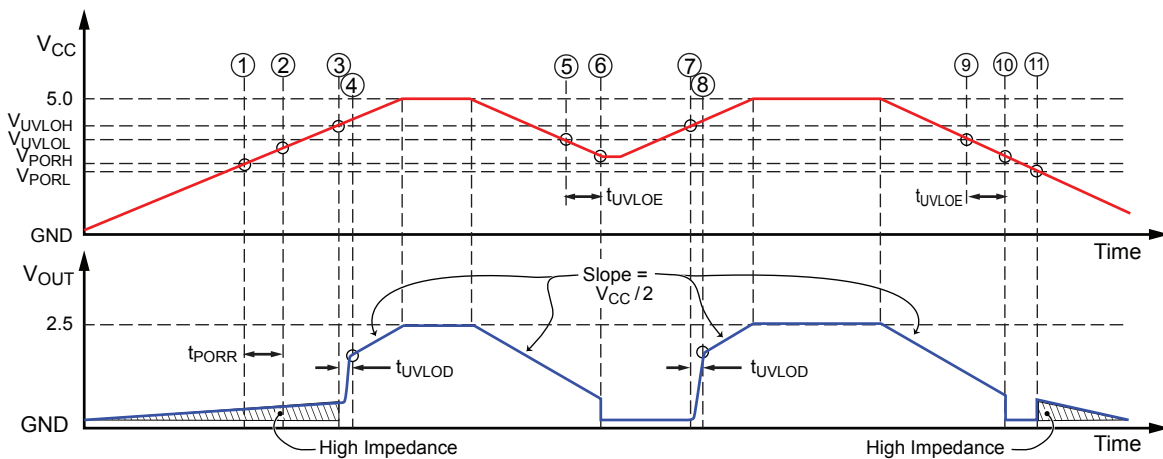

Figure 8: POR and UVLO Operation: Slow Rise Time Case
- Power-Up** At power-up, as  $V_{CC}$  ramps up, the output is in a high impedance state. When  $V_{CC}$  crosses  $V_{PORH}$  (location [1] in Figure 8 and [1'] in figure 9), the POR Release counter starts counting for  $t_{PORR}$ . At this point, if  $V_{CC}$  exceeds  $V_{UVLOH}$  [2'], the output will go to  $V_{CC}/2$  after  $t_{UVLOD}$  [3']. If  $V_{CC}$